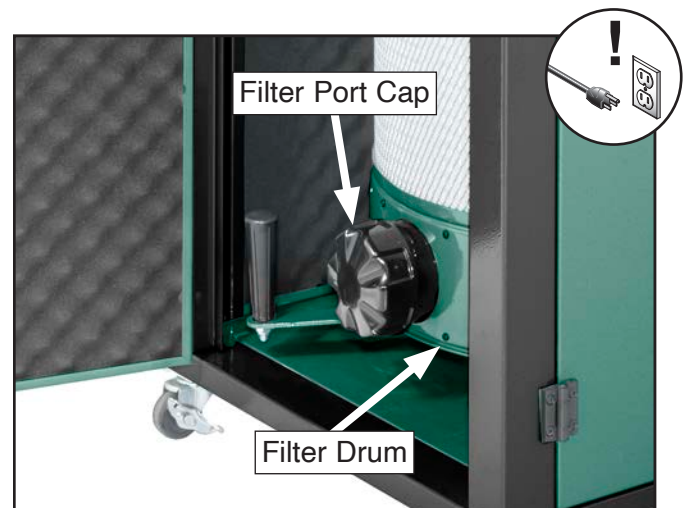

Figure 54. Location of filter port cap.
4. Remove filter port cap (see **Figure 54**), then vacuum excess fine dust from inside filter drum.